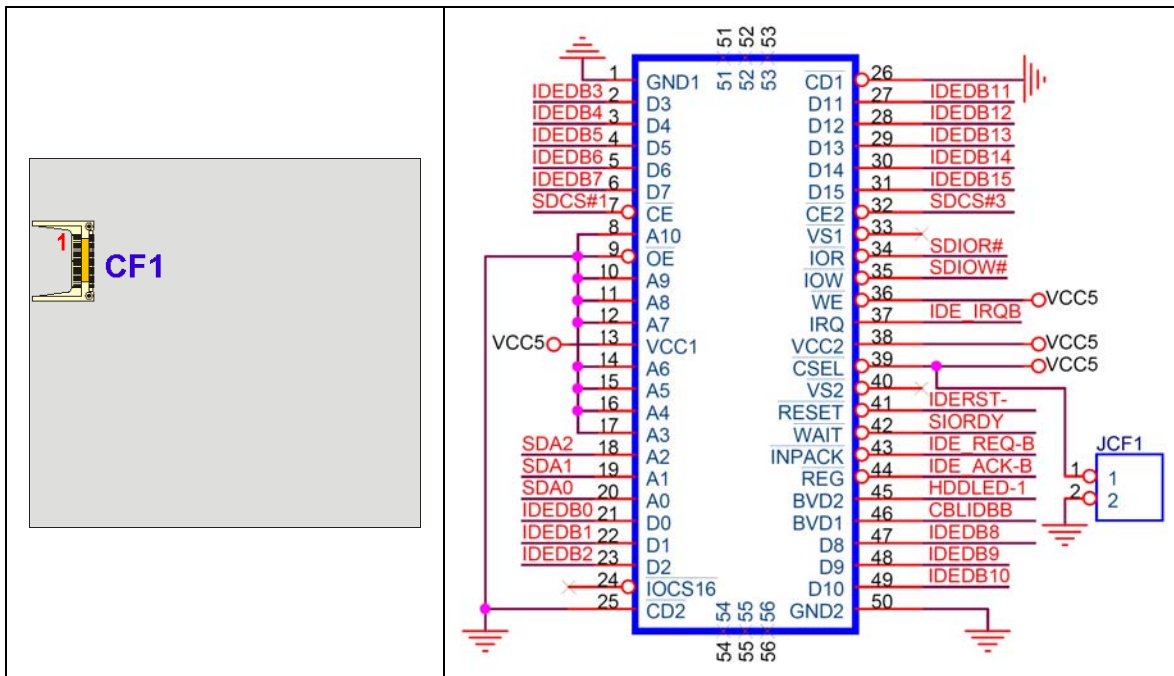

Figure 3-7: CompactFlash Connector Location
- CN Location:** See Figure 3-7